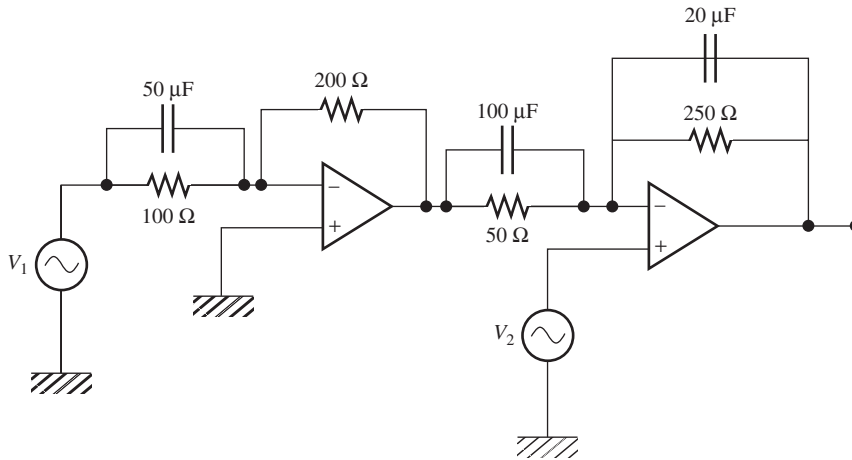

FIGURE P11.27 Circuit for Problem 11.27.
- 11.27** (H) Given that both voltage sources, V_1 and V_2 , are 120 V, 60 Hz what is the output voltage of the circuit shown in Figure P11.27?